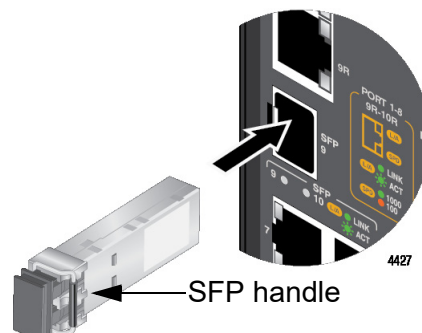

Figure 29. Install SFP Transceiver
3. Position the transceiver with its handle on the right and slide it into the slot until it clicks into place. Refer to Figure 29.